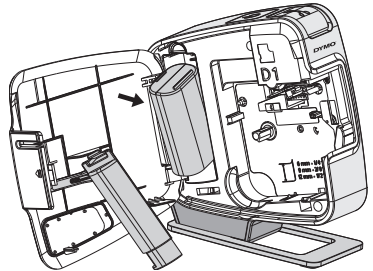

Figure 3
- 2 Remove the battery compartment cover. See Figure 3.